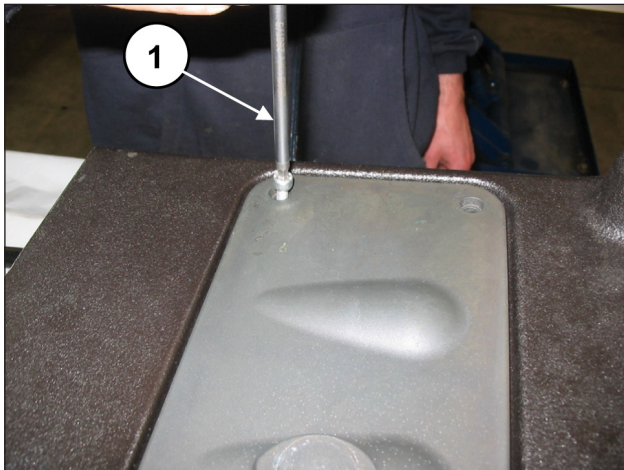
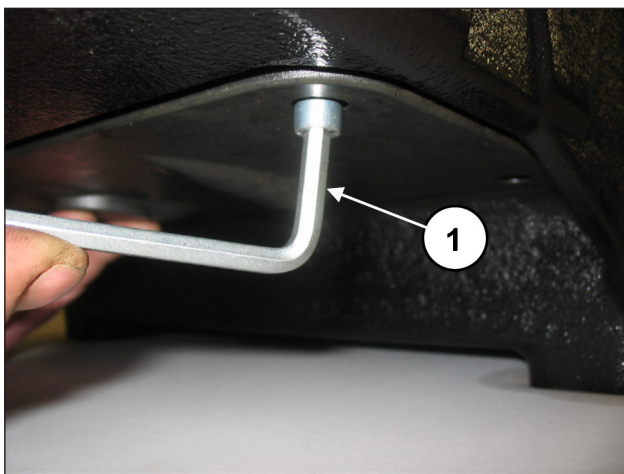

Fig. 139
Fig. 140
Remove the upper inspection cover (pos. ①, Fig. 139) and the lower inspection cover (pos. ①, Fig. 140) by unscrewing the 4+4 attachment screws.